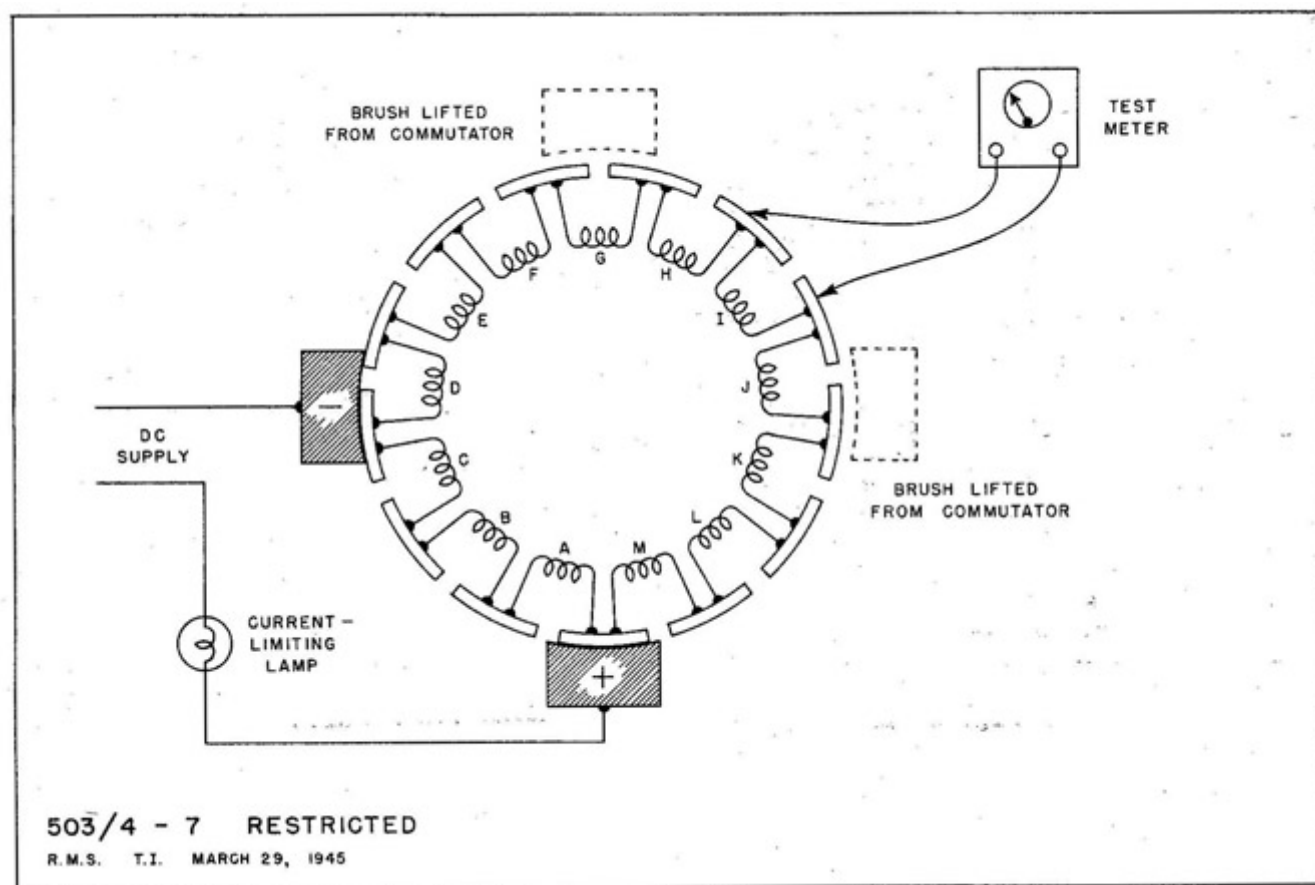

Fig. 7 Testing for open or shorted armature coils.
- (b) Apply DC through a current limiting lamp as shown in Fig. 7. The test current divides into two parallel paths, one through coils A, B and C; the other through coils E, F, G, H, I, J, K, L and M (coil D in Fig. 7 is shorted by the negative brush).
- (1) An open coil causes a high reading across that coil, but zero across all others in the same current path
- (2) A short in a coil or between commutator bars causes a low or zero reading across the defect, and slightly higher than normal readings across all other test points in the same current path.